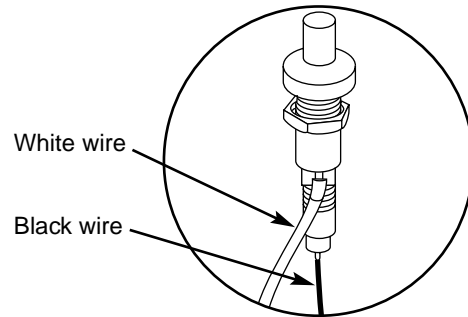

Figure 19
- Check that both the white and black ignition wires are attached properly. Figure 19.